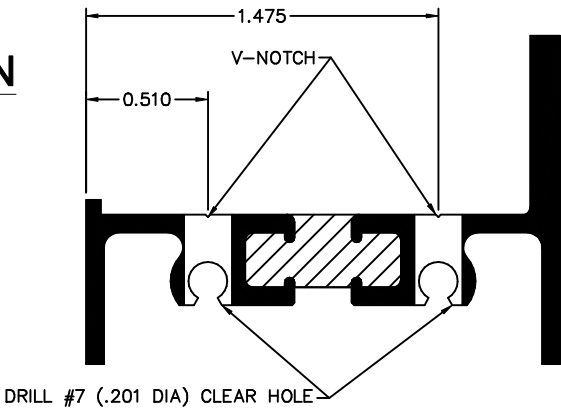

FIGURE 1
- 1. DRILL CLEARANCE HOLES PER FIGURE 1.